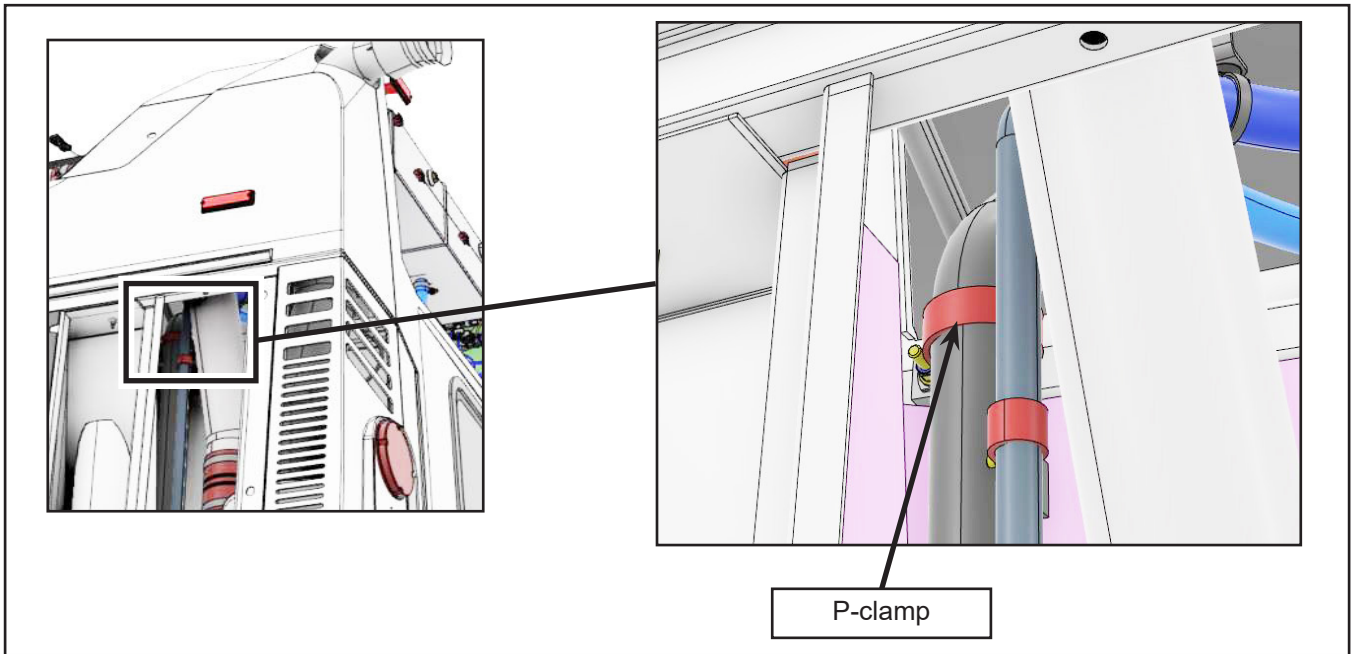

Figure 8 - Remove P-clamp Holding Cooling Pipe
- c. Finally, on the right side of the vehicle, remove the P-clamp to free the cooling pipe (Figure 8).